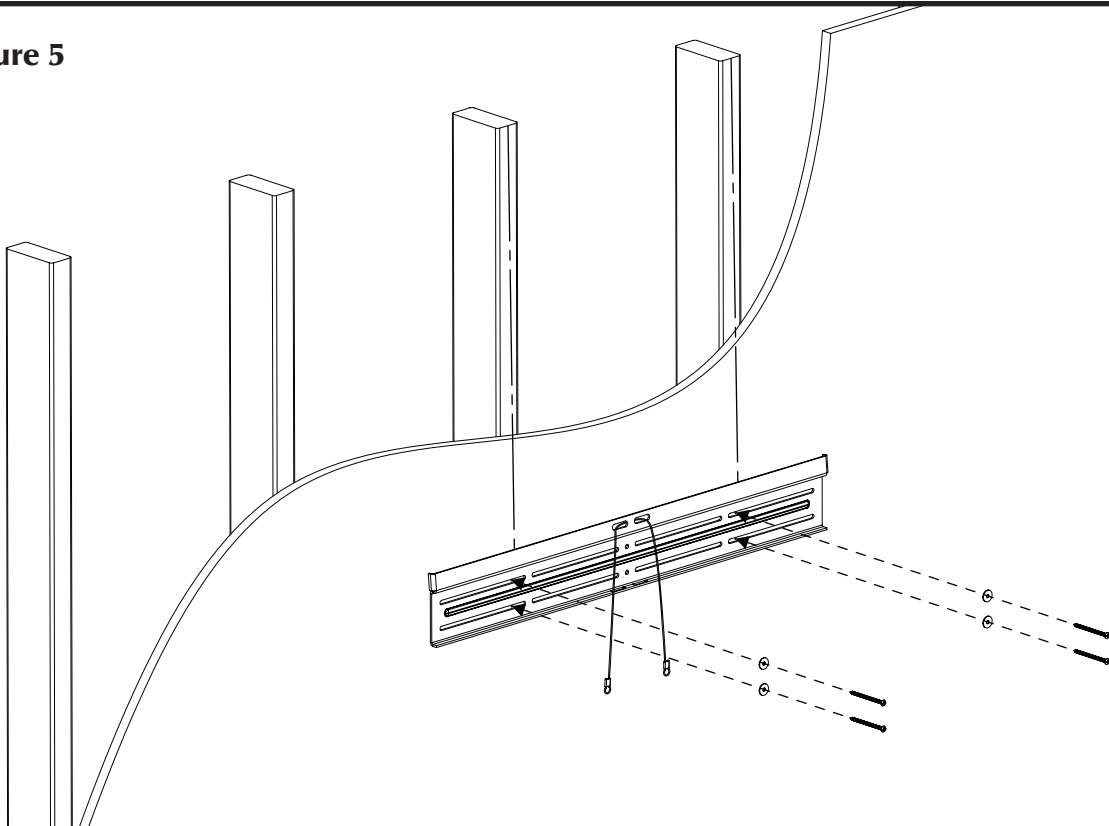

Figure 6
- 15 As shown in figure 6, hang the speaker on the wall bracket, centered in it's desired location. Two people are recommended for this step.